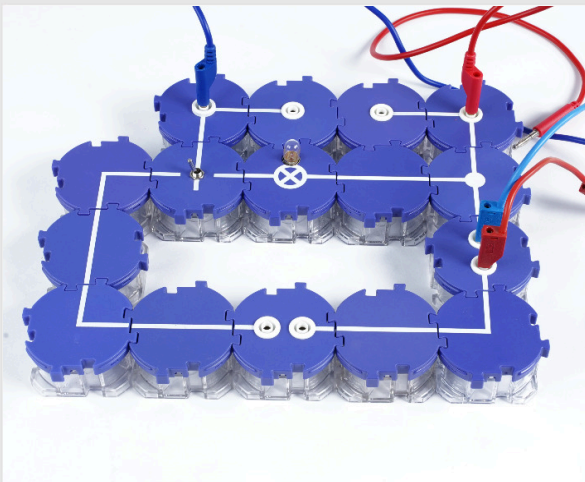
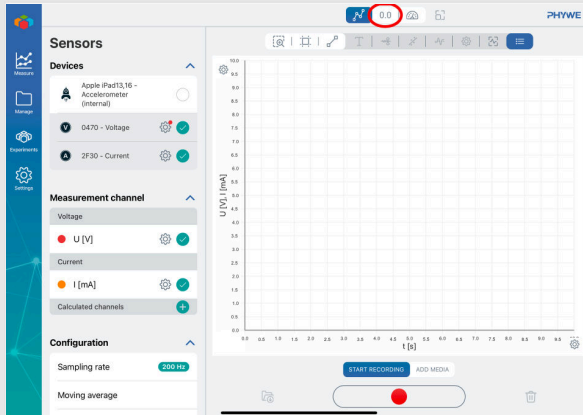

Fig. 1
Fig. 2
- Set up the experiment as shown in Fig. 1, Fig. 2 and Fig. 3, which are shown on the next pages. The change-over switch is set to 1 (charging).